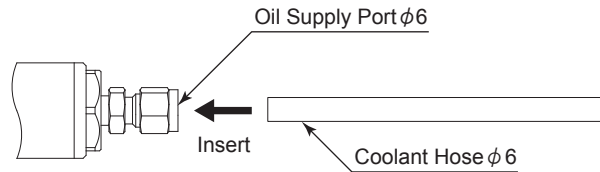

Fig. 18
- (1) Insert the Coolant Hose into the Oil Supply Port  $\phi 6$  on the rear of the Brushless Motor Spindle (Fig.18).